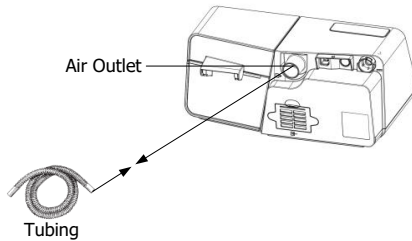

Fig. 12-7
(1) Connect one end of the tubing to the air outlet of the device, as shown in Fig. 12-7.